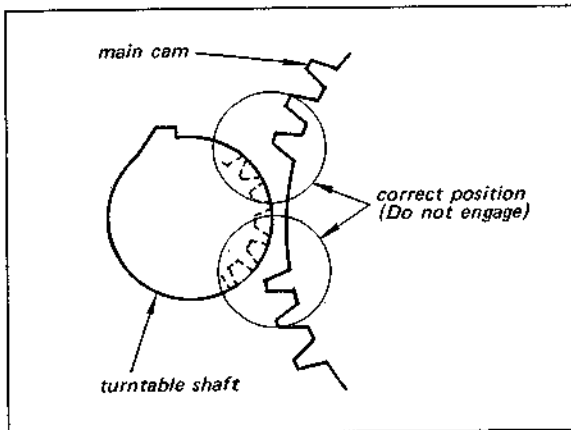

Fig. 3-14. Main cam return position adjustment (1)
2. Make sure that the turntable shaft is set to the position shown in Fig. 3-14, after main cam makes a complete clockwise turn.